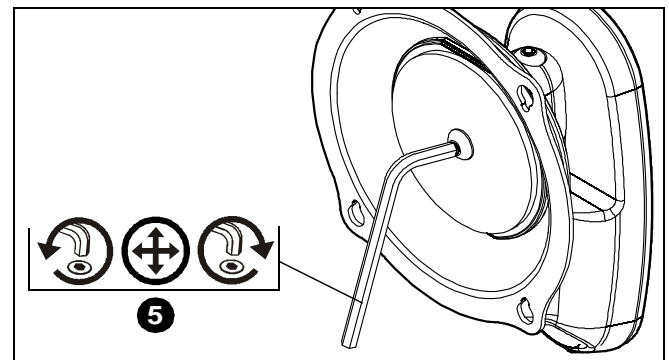

Figure 9
- Turn the tension adjustment screw clockwise to increase tension, or counter-clockwise to decrease tension. (See Figure 9)